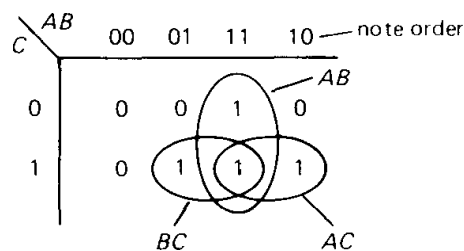

Figure 8.27. Karnaugh map.
Step 2. Make a Karnaugh map. This is somewhat akin to a truth table, but the variables are represented along two axes. Furthermore, they are arranged in such a way that only one input bit changes in going from one square to an adjacent square (Fig. 8.27).